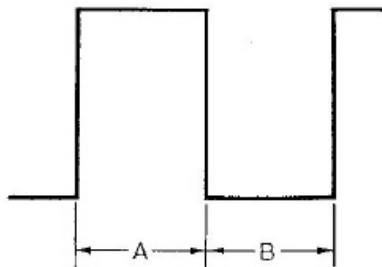

Fig. 16 Adjustment of Duty Ratio
- (1) Place WAVE FORM switch (6) in position \square .
- (2) Connect an oscilloscope to output terminals.
- (3) Adjust VR2 until the square wave form appearing on the oscilloscope screen provide the same durations for its half cycles A and B shown in Fig. 16.